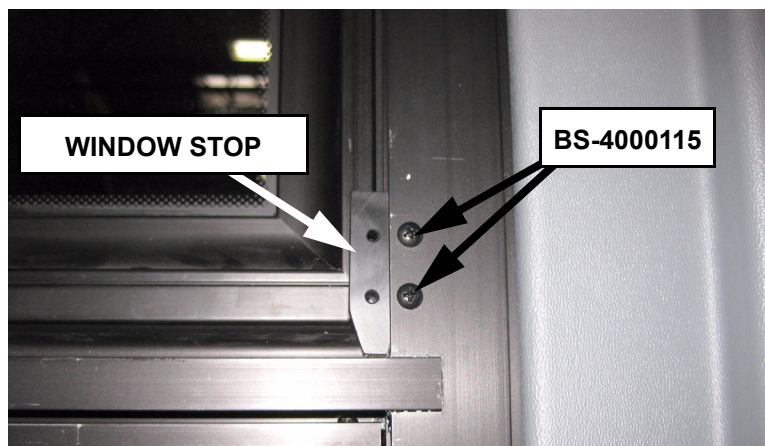

**Figure 1-10 Drill Fixture and Drill Locations**
13. Place the drill fixture into mounting position on mullion. Ensure drill fixture is fully seated against vertical frame. See Figure 1-10
14. Drill 11/64" holes using the top holes of drill fixture as guides. See Figure 1-10
If drill fixture is not available, use dimensions shown in Figure 1-10 for drill locations.